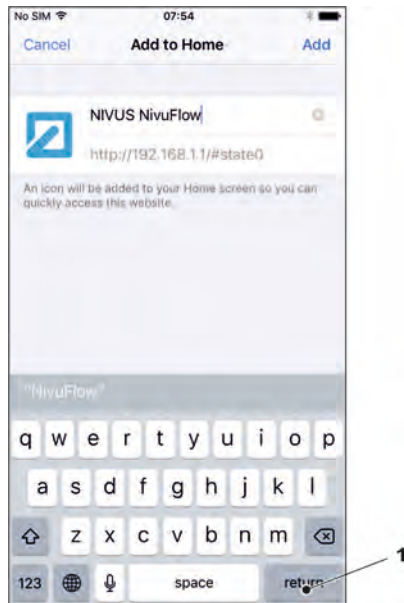

Fig. 31-18 Confirm adding
10. Confirm with "Return" (Fig. 31-18 no. 1).